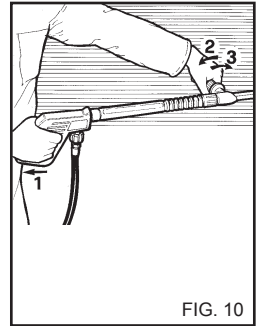

FIG. 10
**USO DE LA LANZA DOBLE (fig. 10).**